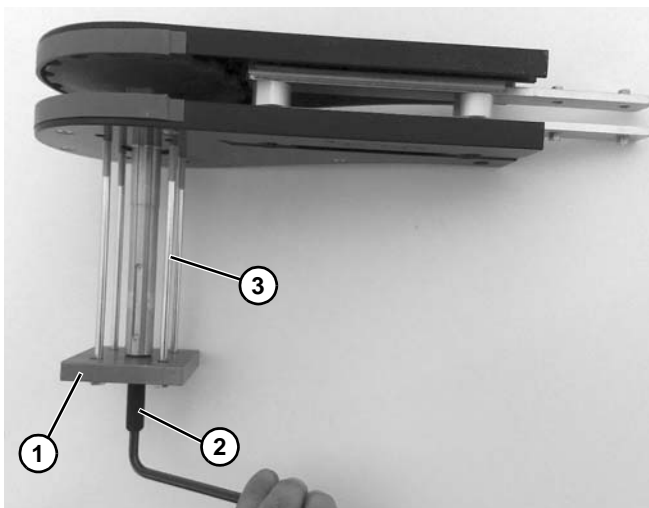
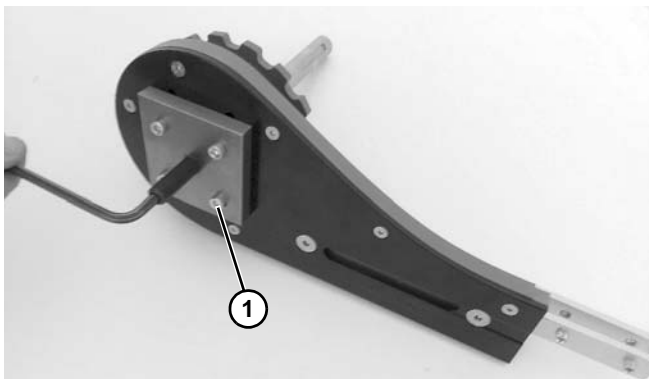

Figure 128
Figure 129
6. Use the bearing tool (**Figure 128, item 1**) to unseat bearings by inserting the four screws and turning the threaded rod (**Figure 128, item 2**) to push bearing out. NOTE: Insert the longer screws (**Figure 128, item 3**) on the drive shaft side and the shorter screws (**Figure 129, item 1**) on the non-shaft side.